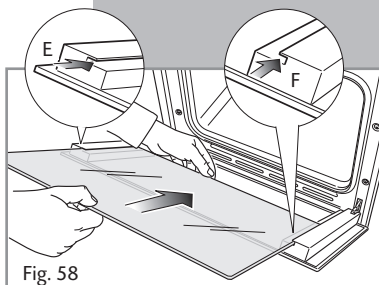
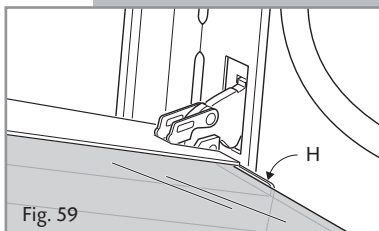

Fig. 58
Fig. 59
- Insert the pane in the left **E** and right **F** slide guides (fig. 58), and gently slide it to the retainers **H** (Fig. 59).